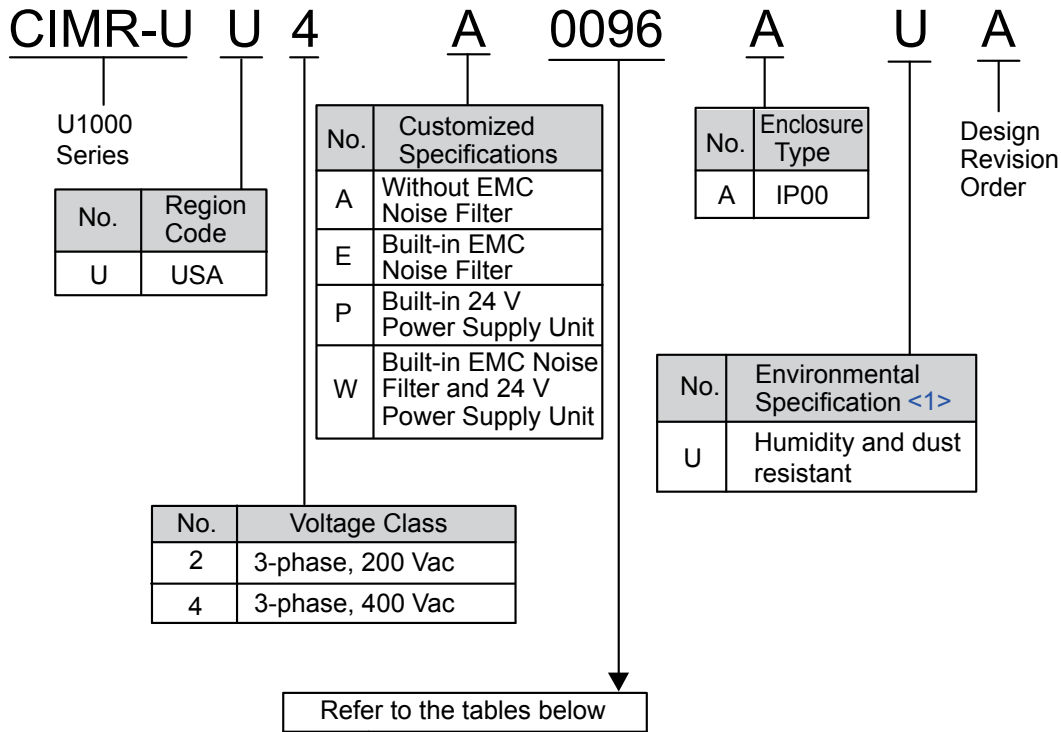

Figure 1.4 Drive Model Number Definition
Refer to Figure 1.4 for details.
- Refer to Figure 1.4 for details.